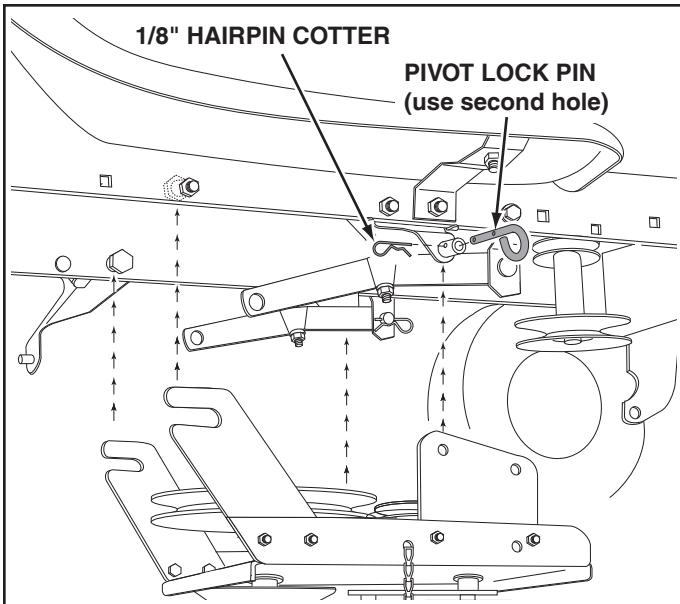

FIGURE 45
STEP 46: (SEE FIGURE 45)
NOTE: To prevent the chain from dragging on the ground, loop the end of the chain though the pivot lock pin. Refer to figure 45 on page 21.